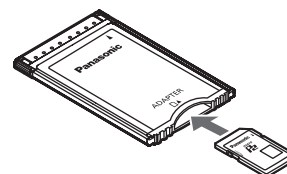

Fig. 4
- Insert the microP2 card adaptor. (Fig. 4) Insert the microP2 card adapter into the card slot with the logo facing upwards until the eject button pops out. (Fig. 2)